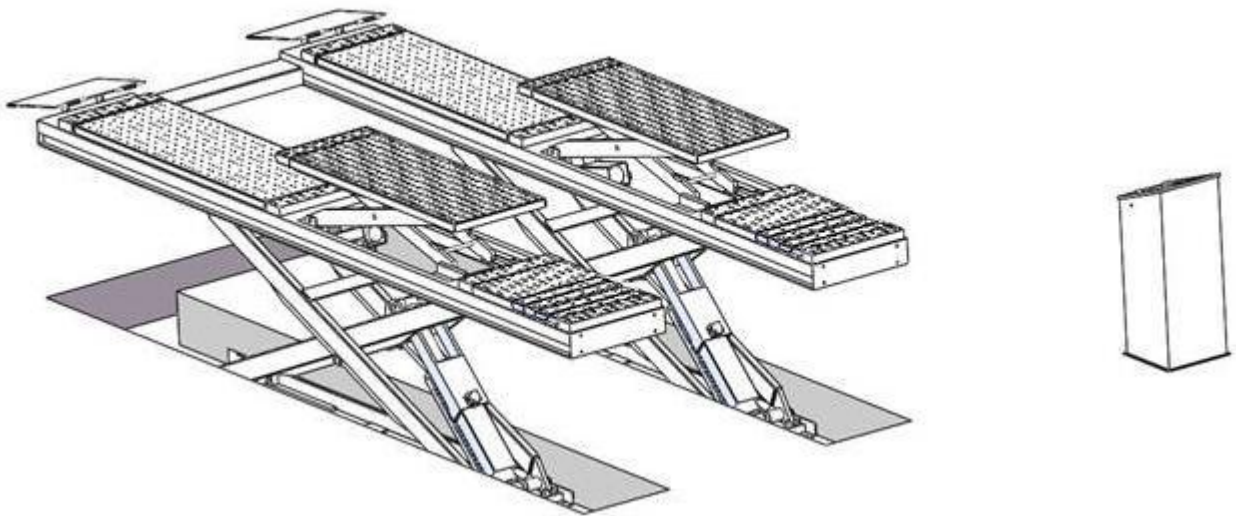

Fig. 6
2.2 Illustration of DX-4000A flush mount installation (**Fig.6**).